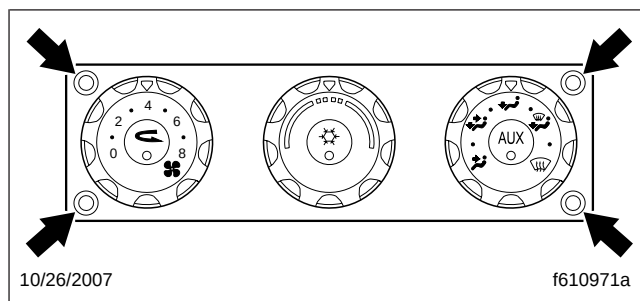

Fig. 1, Climate Control Panel
3. Remove the fasteners from the face of the control panel. See **Fig. 1**.